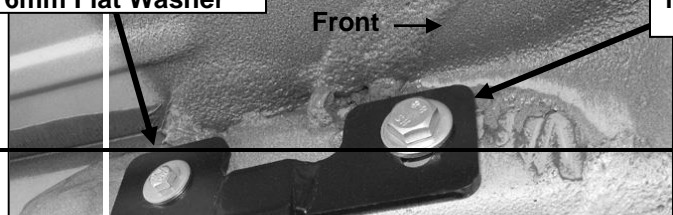

Fig 5
Remove the 6mm factory hex bolt holding the bracket for the plastic cover up to the bottom of the frame channel, **(Fig. 4)**. Select the driver side front Mounting Bracket. Slide the mounting tab on the Bracket under the factory bracket. Bolt the Mounting Bracket to the 10mm Threaded Insert with (1) 10mm x 25mm Hex Bolt, (1) 10mm Lock Washer, (1) 10mm x 27mm STD flat washer. Attach the Bracket to the 6mm Threaded Insert with (1) 6mm x 25mm Hex Bolt, (1) 6mm Lock Washer and (1) 6mm Flat Washer. Replace the factory 6mm bolt with (1) 6mm x 25mm Hex Bolt, (1) 6mm Lock Washer and (1) 6mm Flat Washer, **(Fig. 5)**. Snug but do not fully tighten hardware at this time.